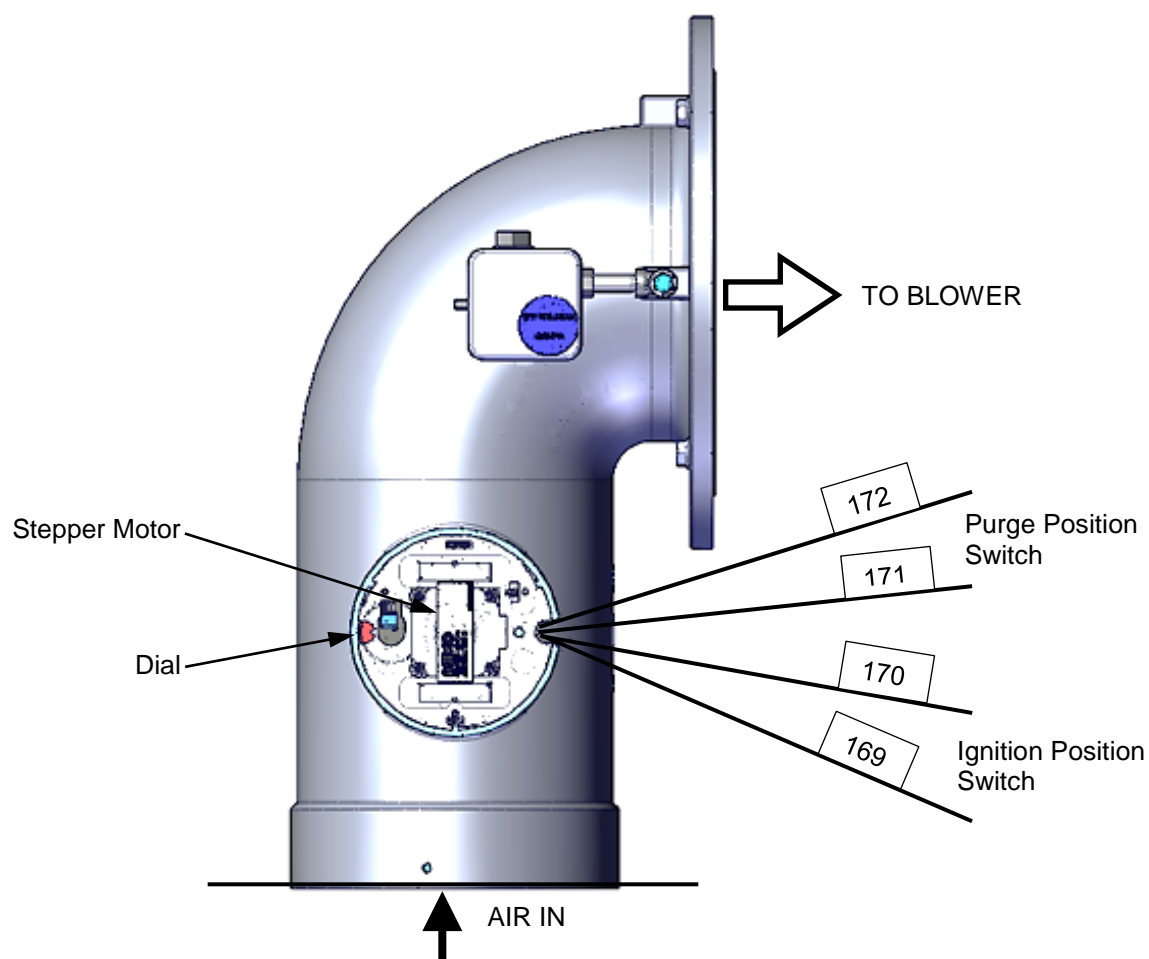

Figure 6-8: Air/Fuel Valve Purge and Ignition Switch Locations
3. Remove one of the two wires (#171 or #172) from the Purge Switch (Figure 6-8).
4. Remove one of the two wires (#169 or #170) from the Ignition Switch (Figure 6-8).